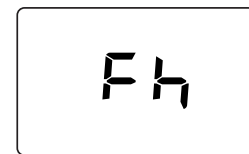

fig. 7- Vent with fan off
- In the next 280 seconds, the venting cycle continues with the fan off (fig. 7) & again the pump will cycle on & off.